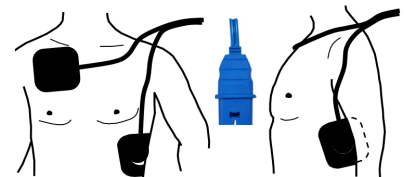
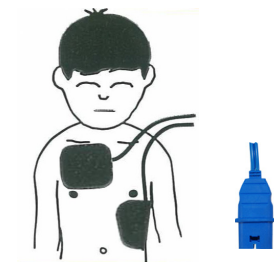

Fig.3.1 Adult electrode application site
Fig.3.2 Application sites for children more than 25 kg (55 lbs)
Electrode placement is the same for adults and children weighing 25 kg (55 lbs) or more, see Fig.3.1 Adult electrode application site and Fig.3.2 Application sites for children more than 25 kg \(55 lbs\).
3. Apply the other electrode slantwise below the left breast as illustrated in Fig.3.1 Adult electrode application site/ Fig.3.2 Application sites for children more than 25 kg \(55 lbs\).